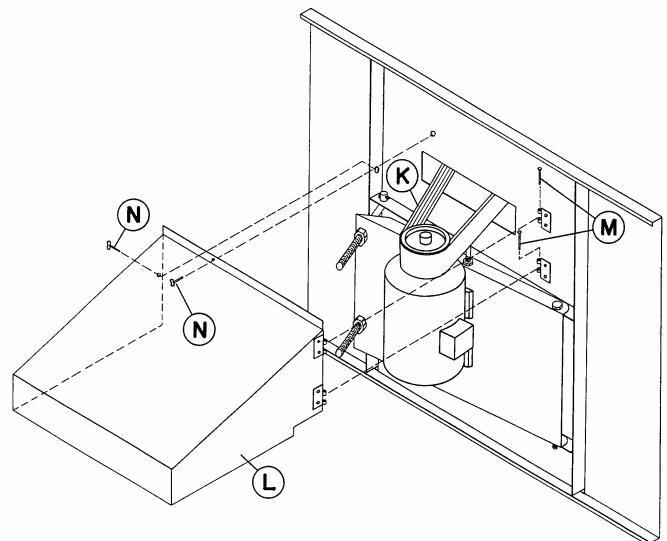

Figure 24 - Motor Guard and Powerband Belt Installation
7. Install Powerband belt **K** (Figure 24) around fan sheave and motor sheave. Tighten belt by adjusting nuts on "J" bolts. Do not over tighten the belts. The center of the belt should deflect approximately 19 mm with moderate hand pressure.
10. To install Motor Guard **L**, match up hinges and install hinge pins **M**. (See Figure 24.)
11. Close Motor Guard and install (2) wing bolts **N**.